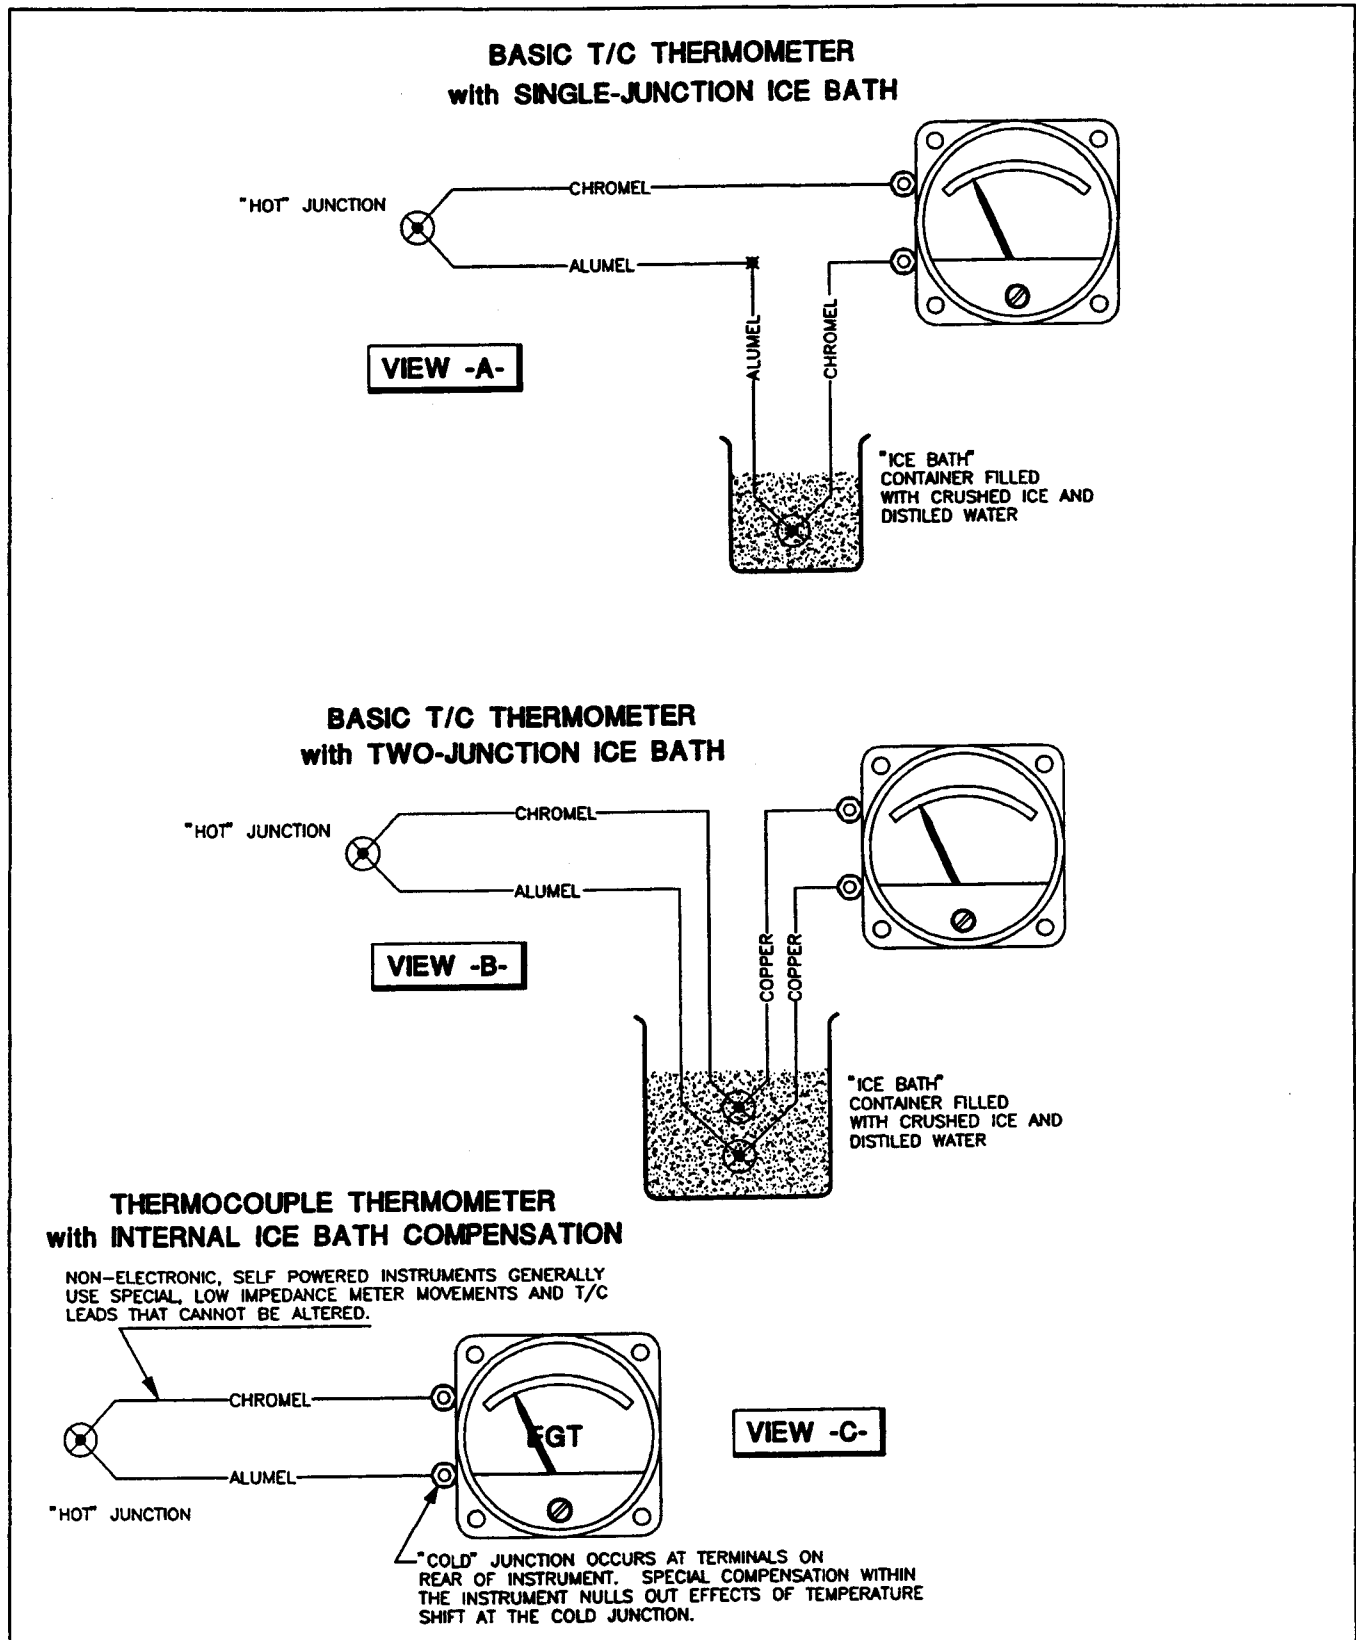
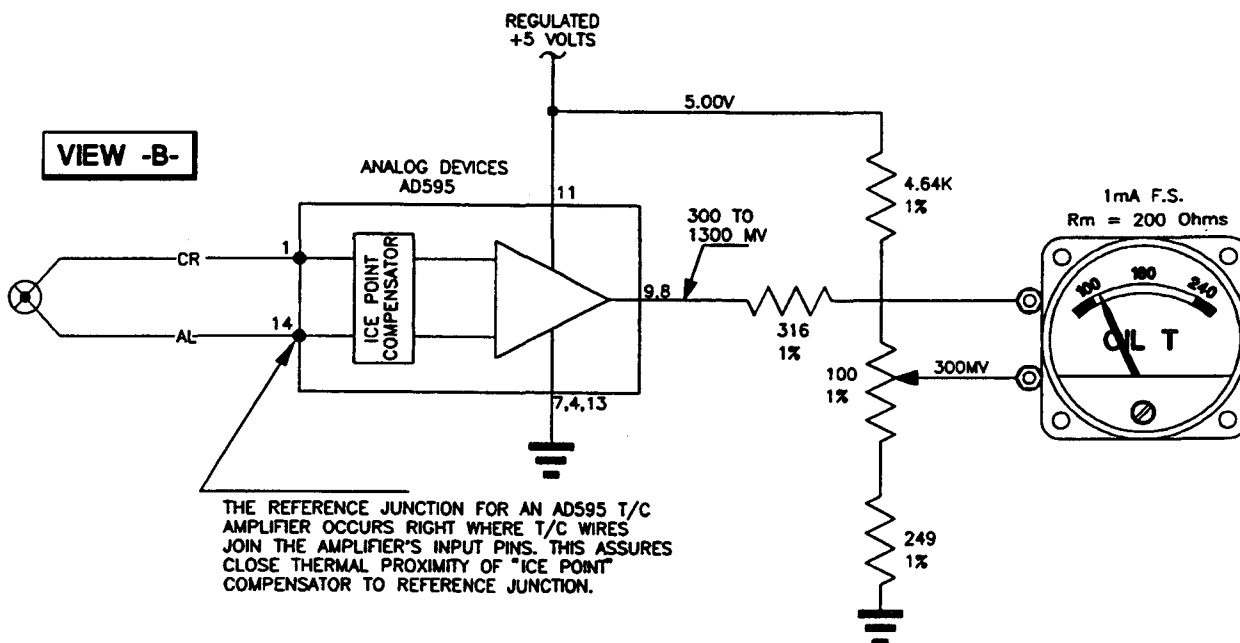
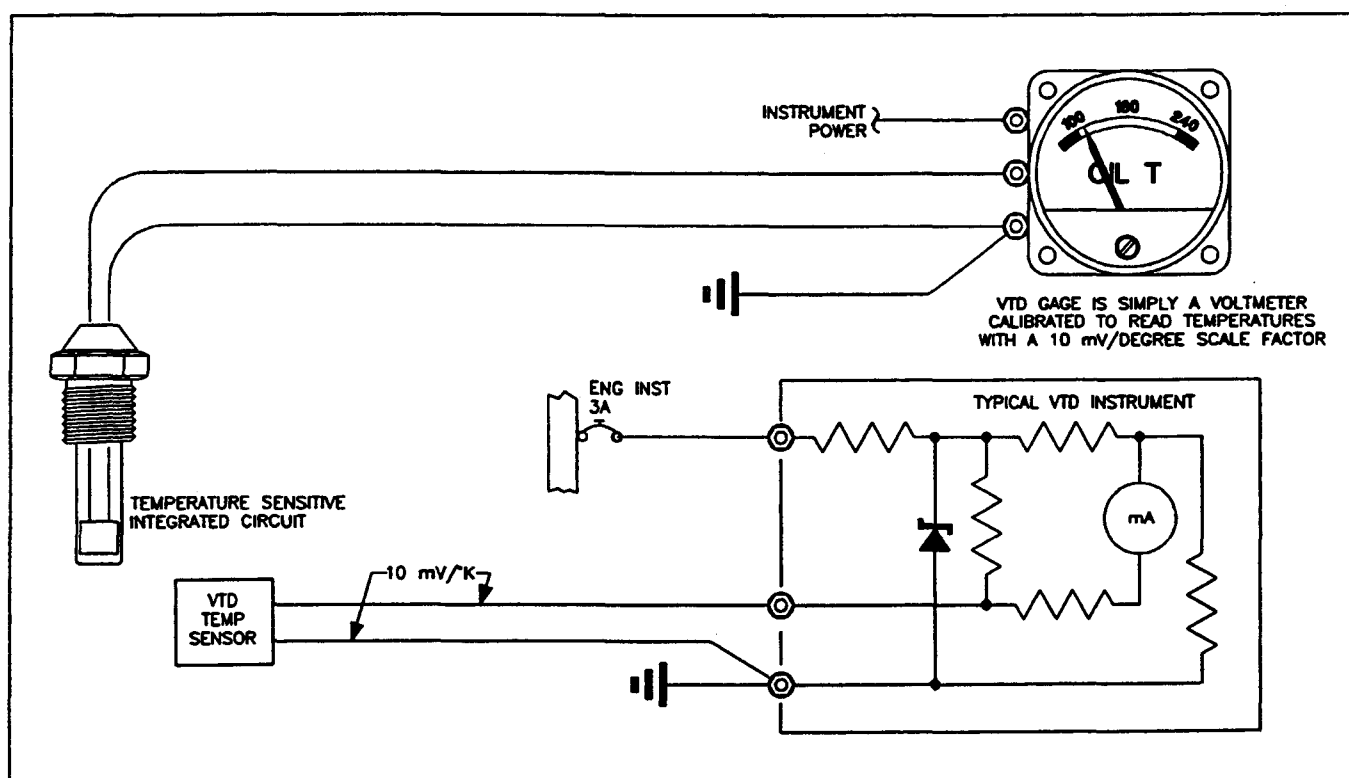

Figure 14-10. Generic T/C Thermometers and Various Reference-Junction Techniques.
Figure 14-12. Amplified Thermocouple Thermometers.
Figure 14-14. Solid State Temperature Sensor.
In Figure 14-10, View -A-, I show two chromel-alumel thermocouples hooked in series with their alumel wires brought together. This means that the "hot" junction generates a voltage opposite in polarity to the "cold" junction. If both couples were at the same temperature, the net voltage at the instrument is zero. Now, let's place the "cold" couple in a known temperature environment, say a bath of crushed ice and water. We know that while any ice exists, the bath is 0°C. Now the voltage measured between the two couples is proportional to temperature difference between the "hot" and "cold" junctions. Further, note that our voltmeter is now connected to two constantan wires. The two parasitic couples at the voltmeter terminals now have equal but opposite effects on the voltage of interest. In other words, irrespective of their voltage, they are opposing polarities and equal to each other - they cancel each other out. Now our instrument need be concerned only the calibrated difference voltage between hot and cold junctions. Further, the hot junction's temperature will be represented by the voltages described in Table 14-2.
While on the topic of high impedance instruments for thermocouples, I'll call your attention to Figure 14-12. In View -A- the hot-junction and reference-junction setup is similar to Figure 14-10, View -A- except: an electronic amplifier inserted between thermocouple wires and indicator. Some interesting things happen when you add an amplifier. (1) the indicator becomes a simple, much less expensive, voltmeter and (2) the current flowing in the thermocouple wires is for all practical purposes, zero. Length of thermocouple wire is no longer critical; insertion of a selector switch to manage many thermocouples is feasible. The last inconvenience to eliminate is the requirement for an ice bath . . .
A company called Analog Devices builds integrated circuits for thermocouple signal conditioning. A sample circuit is shown in Figure 14-12, View -B-. The AD594 integrated circuit is designed to provide amplification, cold junction compensation and linearity compensation for type J thermocouple wire, the AD595 is used with type K wire. The device outputs a voltage of 10 millivolts per °C of thermocouple temperature. These circuits
For example: Let us suppose you want to display oil temperature over the range of 30 to 130 degrees C (86 to 266 degrees F). The output from the AD595 and type K wire will be 300 to 1300 millivolts over that range (10 millivolts per degree C). So, instead of designing a differential voltmeter for 10-16 volts as in Chapter 7, we're going to design for 300 to 1300 millivolts. The values shown in Figure 14-12 are appropriate for a meter having a full scale current of 1 milliamper and internal resistance of 200 ohms. Resistors for other meters can be calculated using techniques described in Chapter 7 *(OR you can simply use a digital panel meter with the decimal point set in the right place to display 10 mV/°C as temperature.)*
Several manufacturers build VTDs that look for all the world like a simple, zener diode voltage regulator. However, this "regulator" is very unstable - in fact, it drifts at a rate exactly equal to  $10 \text{ mV}/^\circ\text{K}$  or  $10 \text{ mV}/^\circ\text{R}$ . Hmmmm . . . we saw that 10 millivolt figure earlier. That's become a sort of industry standard for temperature measurement devices. Everyone builds parts calibrated for measuring C-size degrees, most also make F-size parts too. Figure 14-14 shows a basic thermometer using a calibrated VTD. The indicator is nothing more
than a voltmeter with scale factor of 10mV per degree times total degrees of span and an offset equal to 10mV per degree times the lower end of scale temperature reading. The architectures for expanded scale voltmeters described in Figure 14-12 and Chapter 7 are applicable.
VTDs are calibrated devices as supplied from the factory. They are quite accurate, typically plus or minus 1.0°C or better. Their scale factor of 10 mV/°C is the same as the thermocouple amplifier shown in Figure 14-12, but they are somewhat simpler to use as illustrated in Figure 14-14. Their disadvantage is that their operating temperature ranges do not span as far as thermocouples. They are currently unable to measure exhaust gas temperatures; exhaust gases will remain an exclusive domain of thermocouples. Further, few solid state sensors are rated for temperatures experienced on cylinder heads. However, they do work well at low temperatures (below 0°C); actually better than thermocouples. Therefore, VTDs are well suited for OAT measurement. Their large inherent scale factor of 10°C overpowers parasitic thermocouples which exist in the interconnect wiring so leadwires between instrument and solid state temperature sensors require no special treatment.